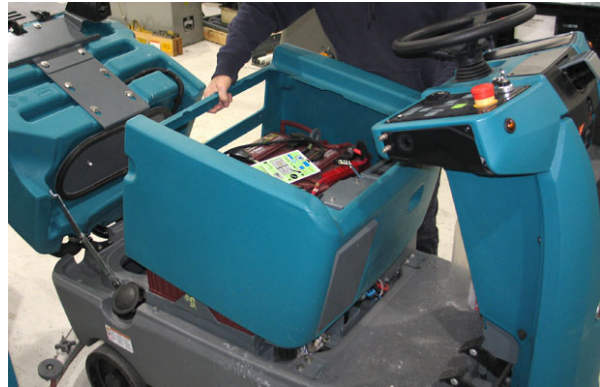

FIG. 7
5. Remove the battery box cover from the machine. Set the battery box cover aside. (Fig. 7)